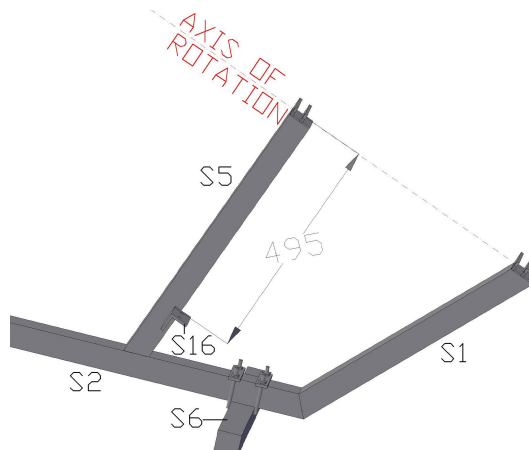

Fig. 24: Position of clock mount
**Step 1** Weld S16 (Clock mount) to the west of S5 (side of bearing; for standing reflector eastside). If you use the clockwork mechanism described here weld S16 495 mm from axis of rotation (See Fig.24). For different tracking systems choose the distance accordingly.